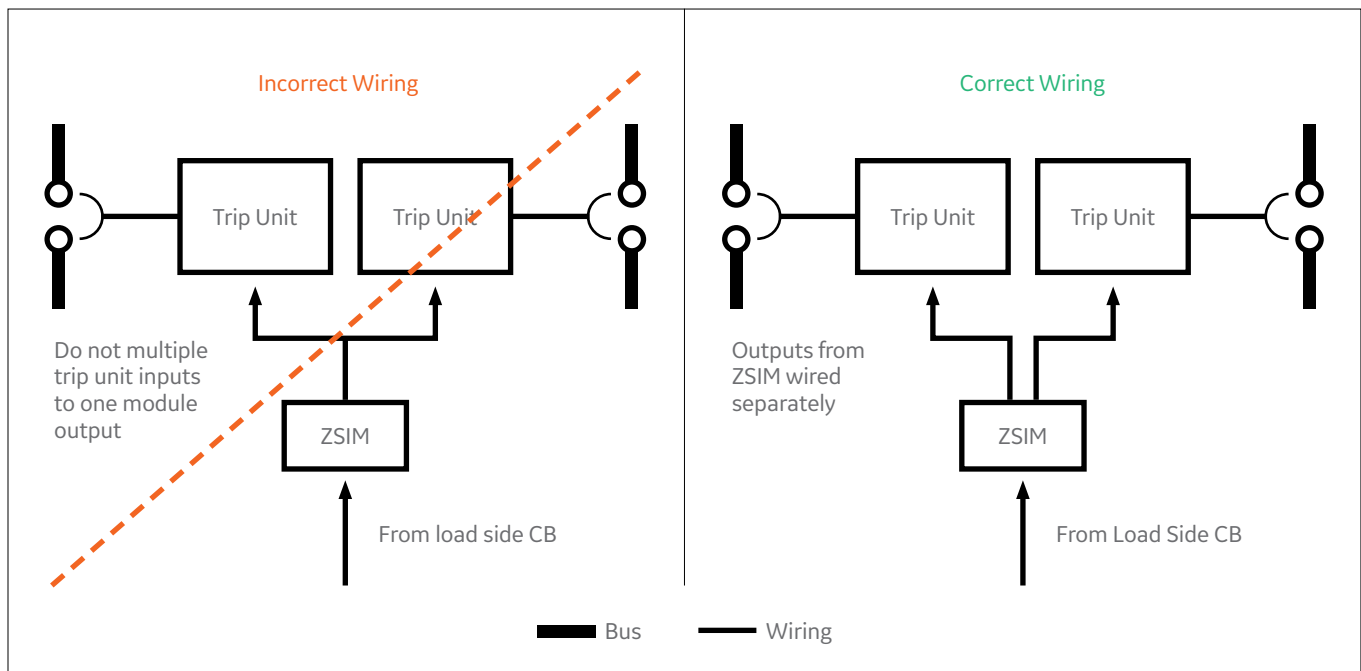

Figure 5: Do Not Parallel Circuit Breaker Zone Selective Interlock “Inputs”
2. Never parallel the ZSI “INPUT” connections of circuit breakers provided upstream terminal pair connections must ALWAYS be terminated in the ZSI “INPUT” of only one trip unit (means one to one mapping or one upstream terminal pair set connection to one trip unit only). See Figure 5.